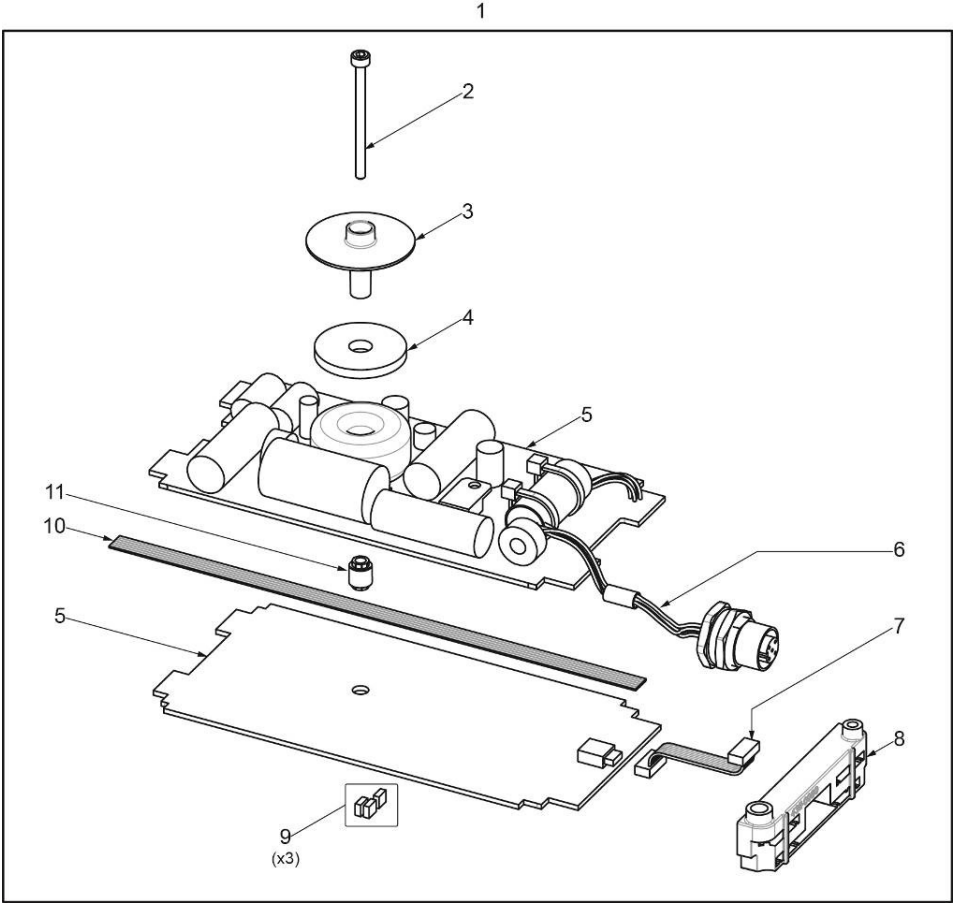

Figure 30: Parts of the Main PCB
- a. The main PCB of the F3 COMPACT is a line replaceable unit and this section of the manual describes the procedure for its replacement. Figure 30 shows the main parts associated with the main PCB.